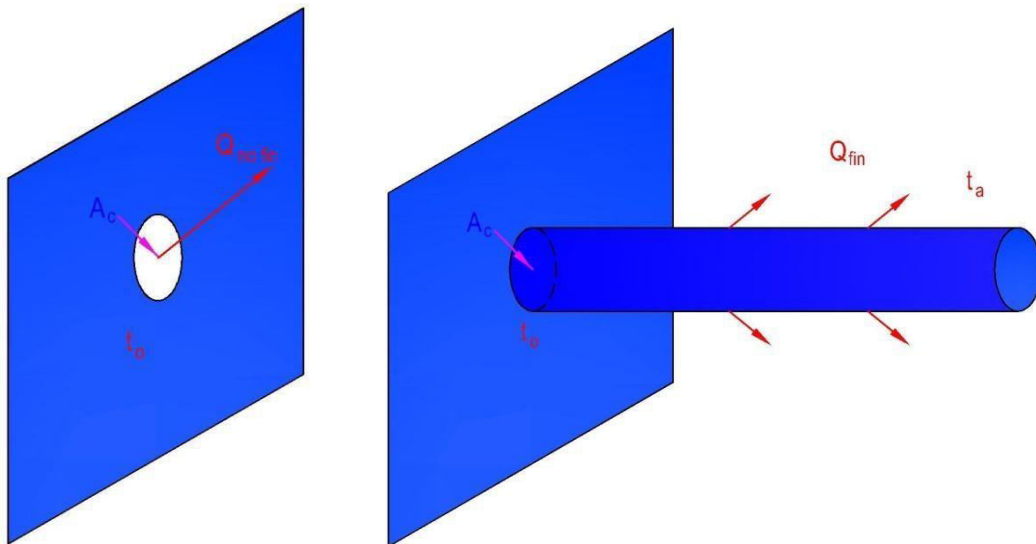

Fig. 3.8 Heat dissipation with and without fin
- Figure 3.8 shows the base heat transfer surface before and after the fin has been attached.